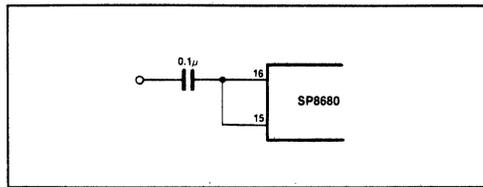
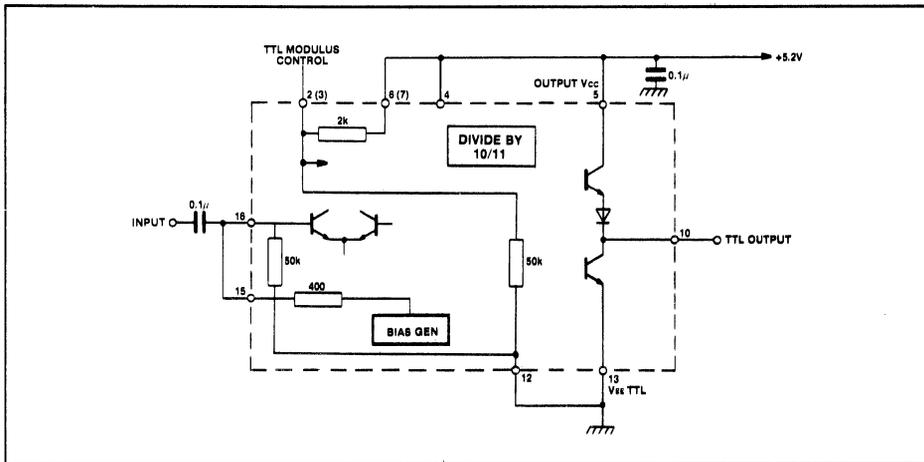
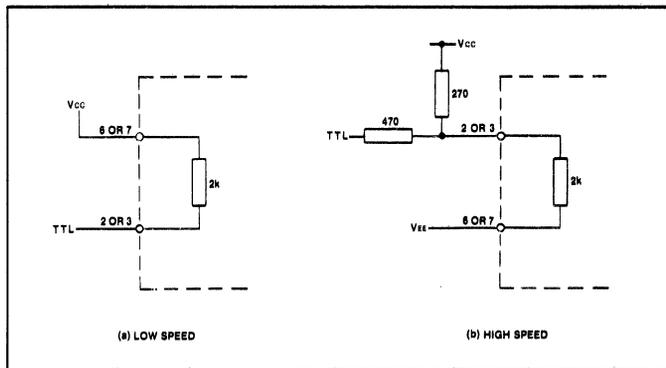

Fig.7 AC coupled input
Fig.8 Typical application showing interfacing
Fig.9 TTL interface to PE1 and PE2
1. The clock input, which is ECL 10K compatible throughout the temperature range, can also be directly coupled to TTL as shown in Fig.9. The clock can also be capacitively coupled to the signal source (see Fig.7). Connecting the internally-generated bias voltage to the clock input, i.e. pin 15 to pin 16 centres the clock input about the switching threshold (see Fig.8).
4. Both control inputs (PE1 and PE2) are ECL 10K compatible throughout the temperature range. Each control input is provided with a pull up resistor, the remote ends of which are connected to pins 6 and 7. This allows the pull up resistors to be unused if so desired, or to be used to interface from TTL (see Fig.9). If interfacing to ECL is required then pins 6 and 7 should be left open circuit: alternatively they can be connected to  $V_{EE}$  to act as pull-down resistors. When high, the master set input sets the counter to the eleventh state, is asynchronous, and overrides the clock input.